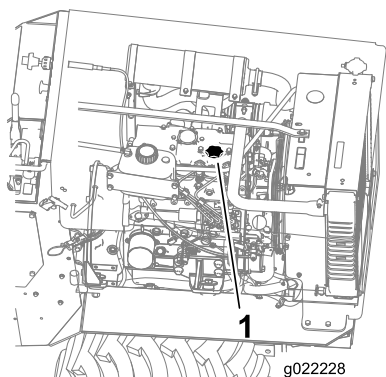

**Figure 8**
4. Clean around the oil dipstick (Figure 8).
5. Pull out the dipstick and wipe the metal end clean (Figure 8).
6. Slide the dipstick fully into the dipstick tube (Figure 8).